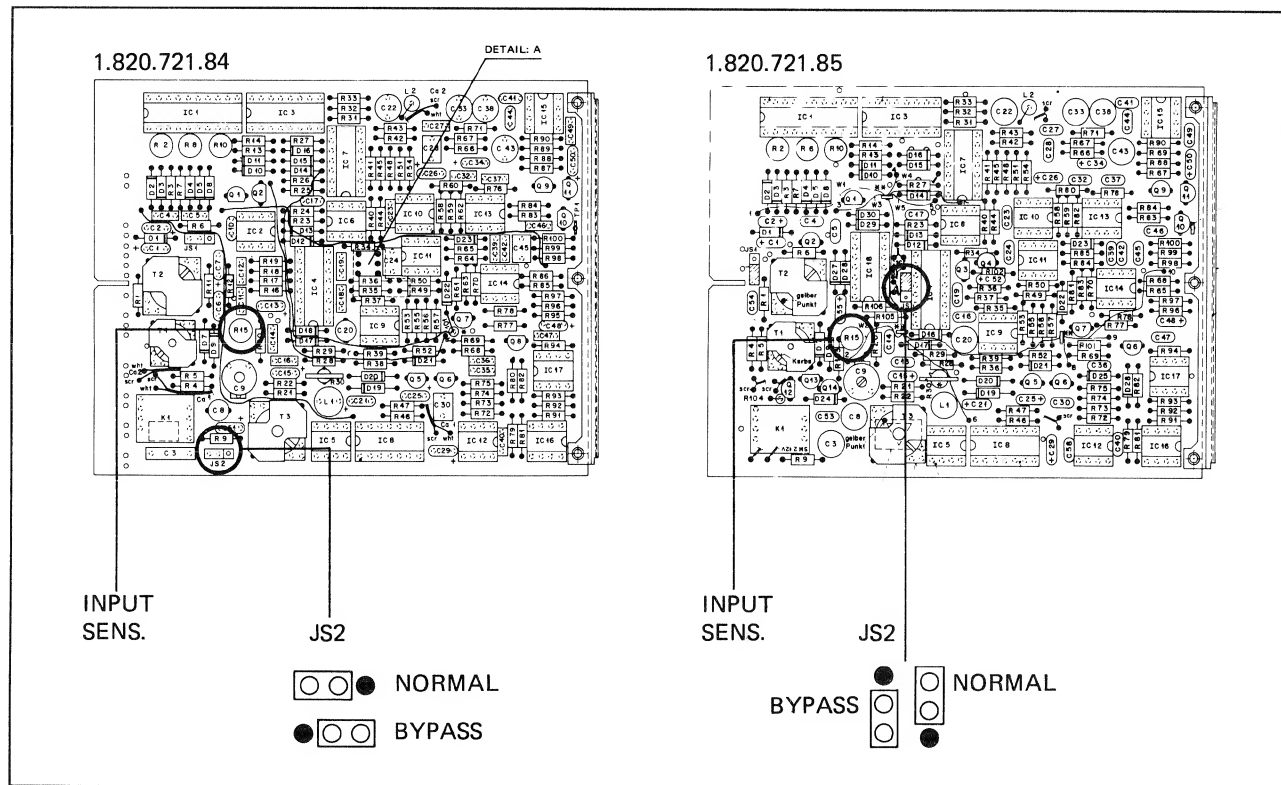

Fig. 4.7.1
- Remove the CODE DELAY UNIT, set the jumper JS2 to the BYPASS position (if not already there, see Fig. 4.7.1).